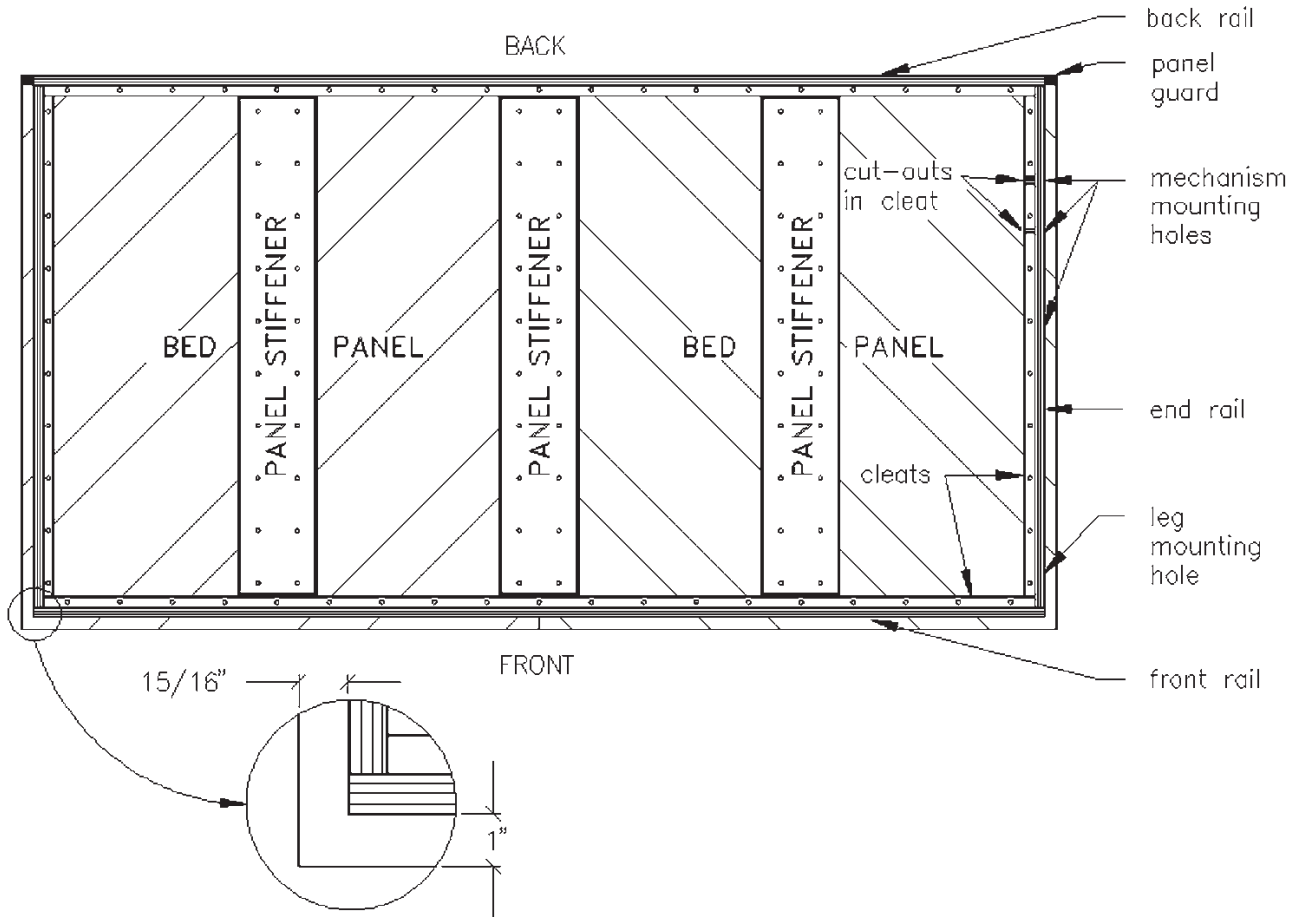

Figure 7. The Bed Panel Unit. Enlarged detail shows offsets (to unfinished edges of Bed Panels) for End & Front Rails.
Note the following points, see **Figure 7**:
- After 12 hours, remove clamps and draw a pencil line on the mattress side of the joined BED PANELS 15/16" in from each end edge and 1" in from the front edge, see enlarged detail in **Figure 7**. These lines mark the locations of the end and front rails. The back rail will be flush with the panel ends.